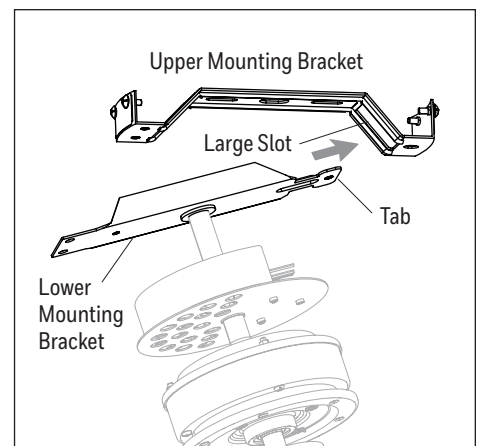

Figure 2.3
3. Place the tab of the lower mounting bracket into the large slot in the the upper mounting bracket (Figure 2.3).